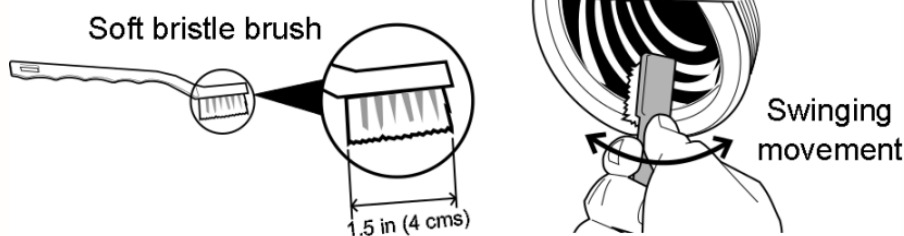

FIG. 4 TIP FOR CLEANING ROUGHNESS PARTS
2. Using a soft bristle brush not provided -See Fig 4, clean with adequate detergent each component, specially inside headstock (13) to eliminate waste and debris of food.
5. It is important after doing this procedure, to lubricate the knife (18) and plate (19) with the included mineral oil. Assemble again.